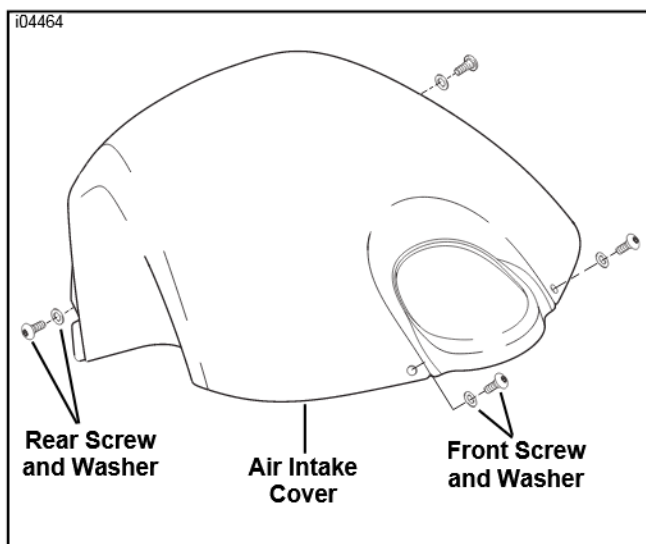

Figure 1. Air Intake Cover Mounting Hardware
4. See Figure 1. At rear of air intake cover, remove the two shouldered screws and washers securing the rear of the cover to the frame.